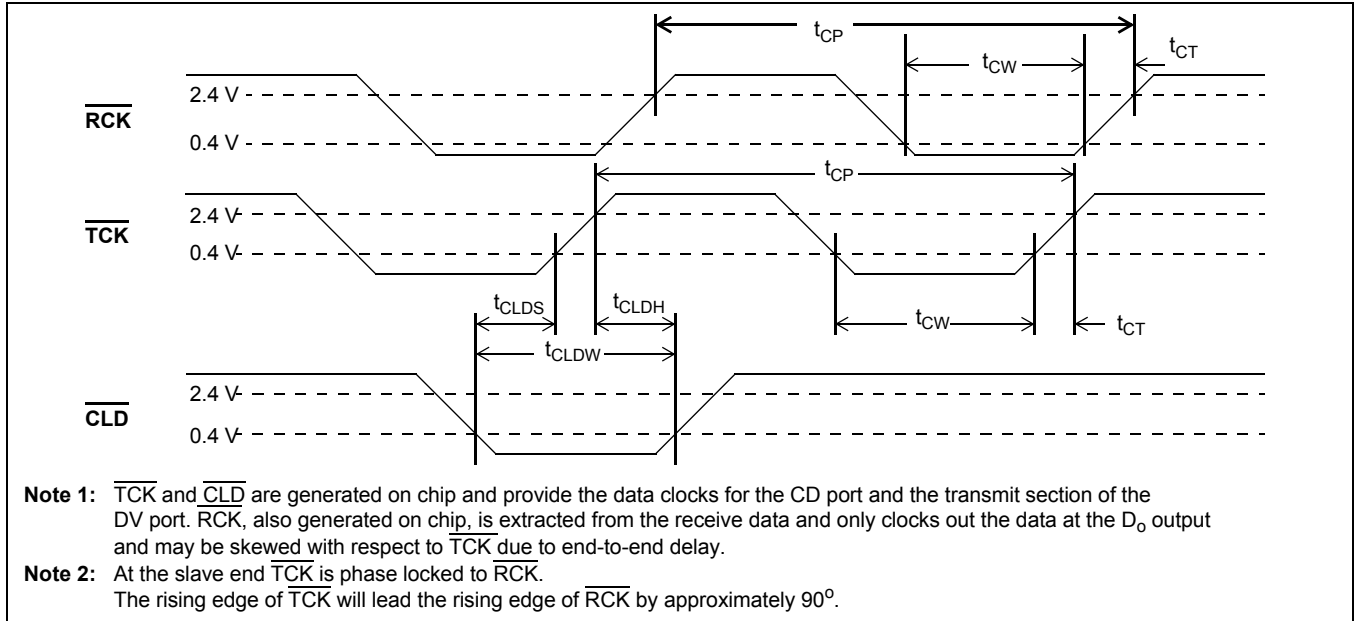

Figure 18 - RCK, TCK &amp; CLD Timing For MOD Mode
**AC Electrical Characteristics† - Clock Timing - MOD Mode (Figure 18)**